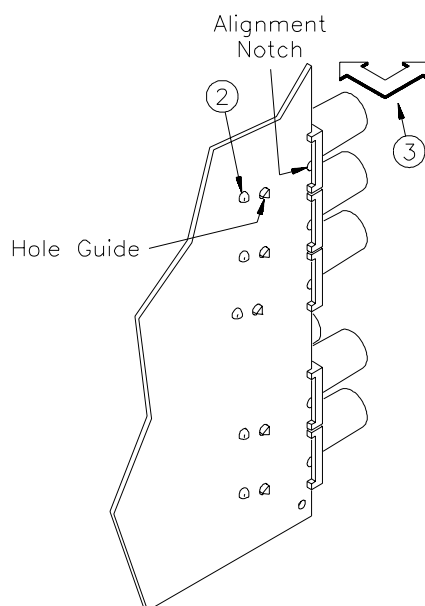

Figure 8-3. Remove/Install an Input Terminal.
- Step 2** Unsolder the terminal from the PC assembly at its one solder point (see Figure 8-3).